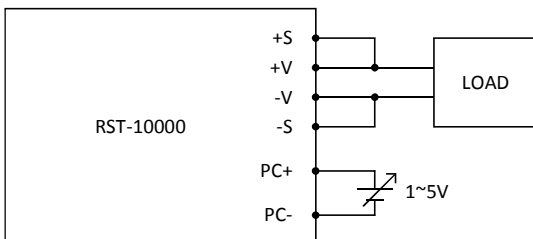

Fig 4.1
- Connect an external voltage source between PC+ and PC- on CN992 or CN993 as shown in Fig 4.1.